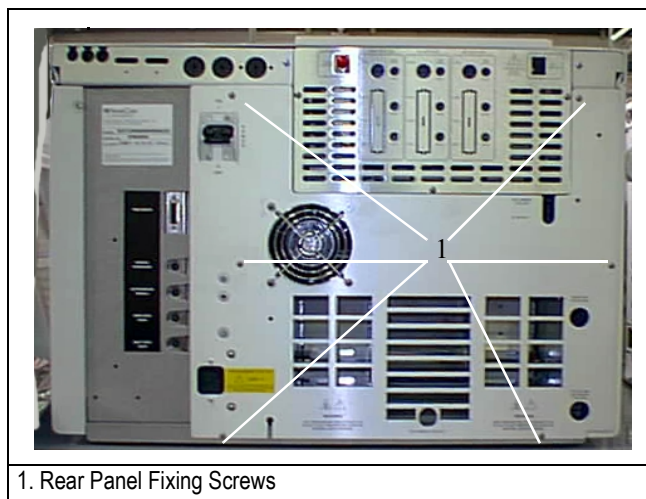

Figure B-4. GC Rear Panel Fixing Screws
1. Locate the six Allen screws that secure the rear panel to the GC. Remove these screws using the 2-mm Allen wrench. See Figure B-4.